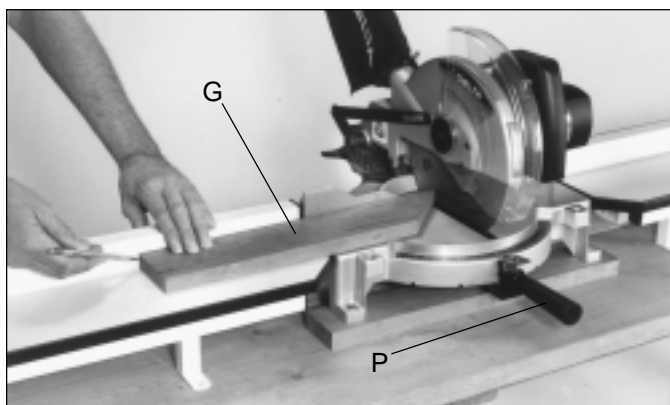

Fig. 6
7. Move the miter arm (P) to the 90 degree straight cut-off position, as shown in Fig. 6, and slide the workpiece (G) until it contacts the saw blade teeth. If the stock does not change position, you have a center pivot saw which can be fastened to the top of the workbench with the saw fence in line with the miter table fence. If the workpiece did move, make a second mark on the miter table fence at the end of the workpiece at its new position, as shown.